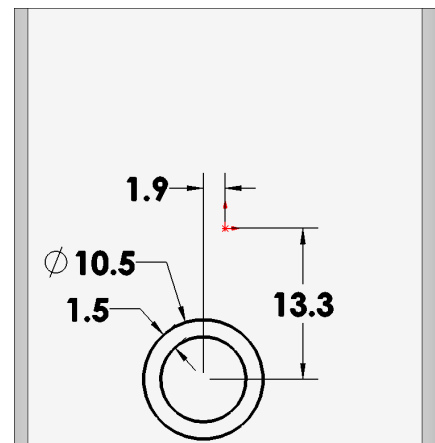

Fig. 14
Step 6. Add dimensions, **Fig. 14**.